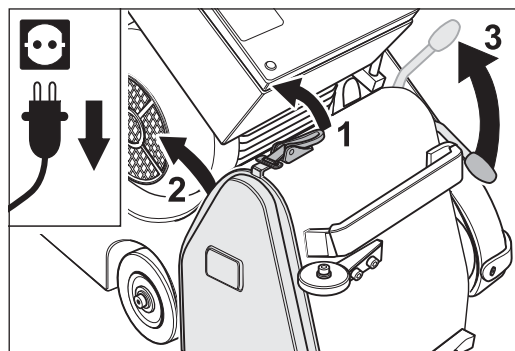

Fig. 66 Release the cover lock (1), remove the side cover (2) and lower the tensioning roller by pulling up the operating lever (3).
- 3 Release the cover lock (fig. 66, 1) and remove the side cover on the right of the machine housing (fig. 66, 2).
- 4 Pull the operating lever of the drive unit upwards (fig. 66, 3). This will lower the tensioning roller.